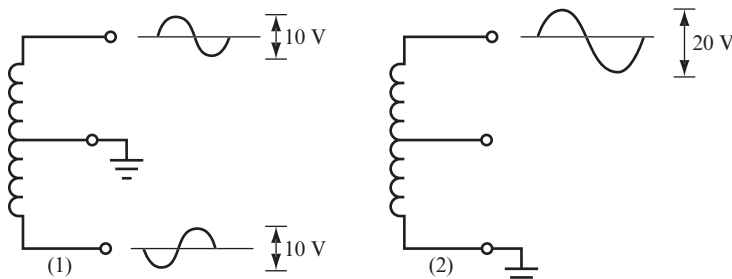

FIGURE 10.9
12 The actual voltage measured across the secondary coil of a transformer depends upon where and how you make the measurement. Figure 10.9 illustrates different ways to measure voltage across a 20 V_{pp} secondary coil that has a center tap.
If the center tap is grounded as shown in diagram (1) of Figure 10.9, then there is 10 V_{pp} AC between each terminal and ground. You can see that the two output waveforms in diagram (1) are out of phase (180 degrees out of phase, in this case) by comparing the two sine waves shown next to the two terminals. If the bottom terminal is grounded as it is in diagram (2) of Figure 10.9 and the center tap is not used, then there is 20 V_{pp} between the top terminal and ground.